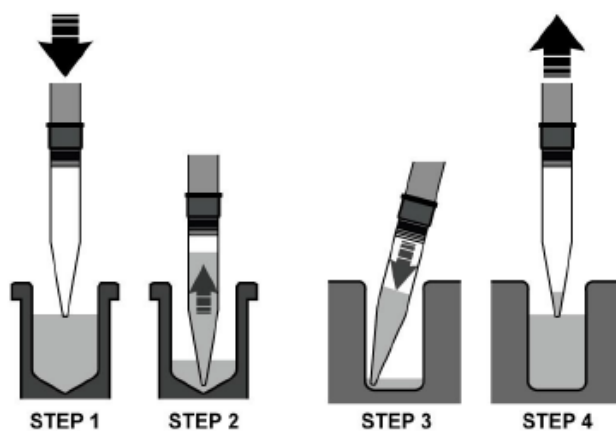

Figure 17. Reverse pipetting.
- Add Gel-Dye solution to chip wells 3, 7, 8, and 10 using a Reverse Pipetting Technique as shown in Figure 17.